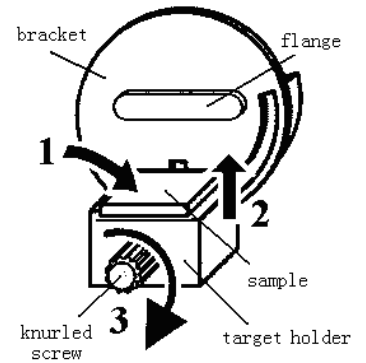

Fig.6 The target holder
**A2: Target holder,** as shown in Fig.6.